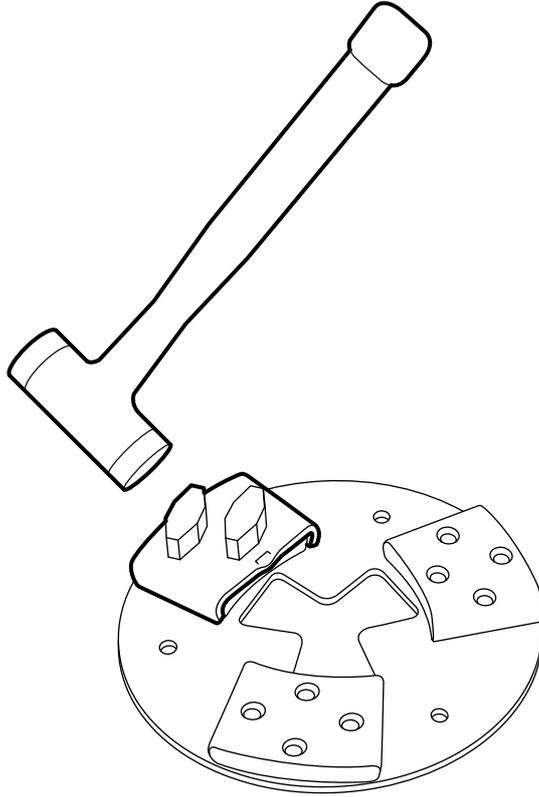

Figure 4-4 Removing grinding tools
1. Remove the grinding tool by giving it a few light taps with a rubber hammer so the locking mechanism releases, see Figure 4-4 on page 18. Then draw the tool up out of the guide slot.